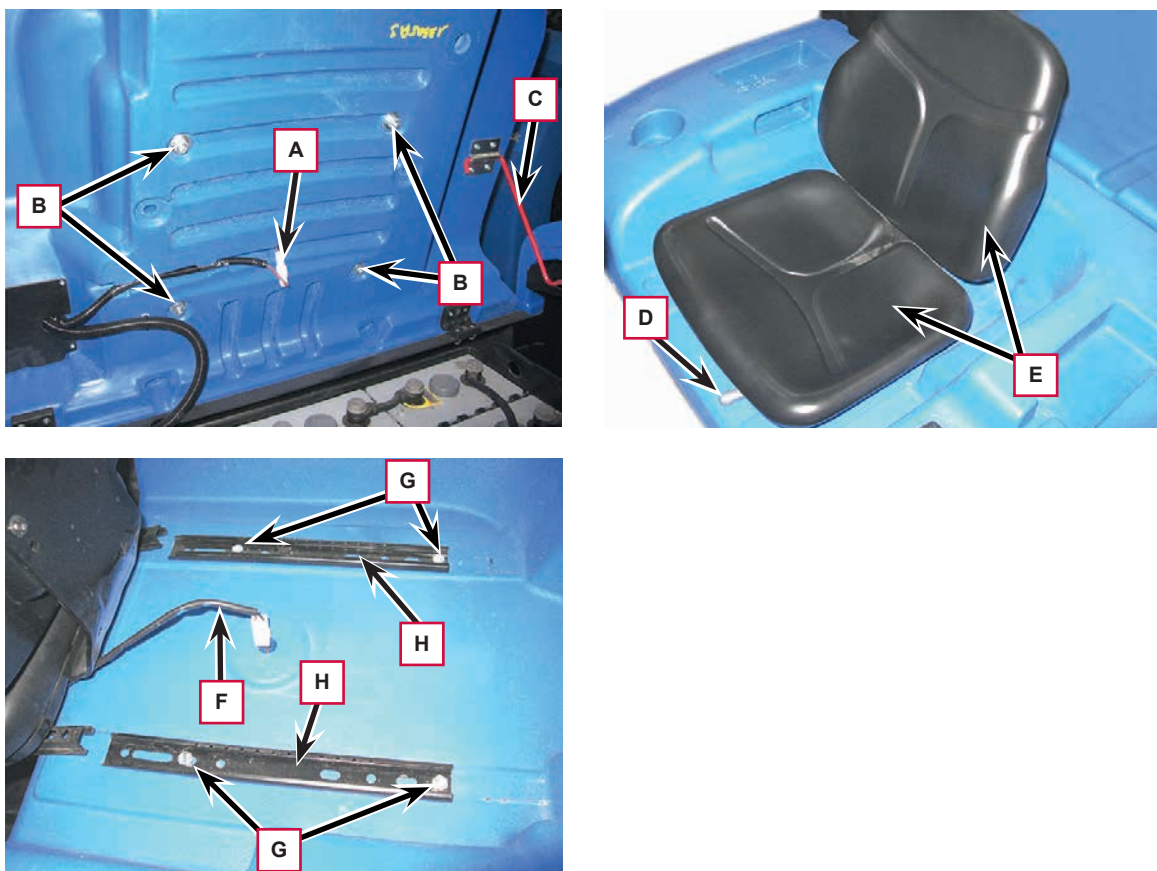

Figure 17
5. Working from the inside of the battery/engine compartment, disconnect the electrical connection (A, Figure 17) of the seat microswitch.
6. If necessary, also remove the seat rails by unscrewing the nuts (B).
7. Disengage the support rod (C) and close the battery/engine hood.
8. Operate the lever (D) and remove the seat (E) from the rails.
9. Free the seat cable (F) from the hole.
10. If necessary, remove the screws (G) and the rails (H).